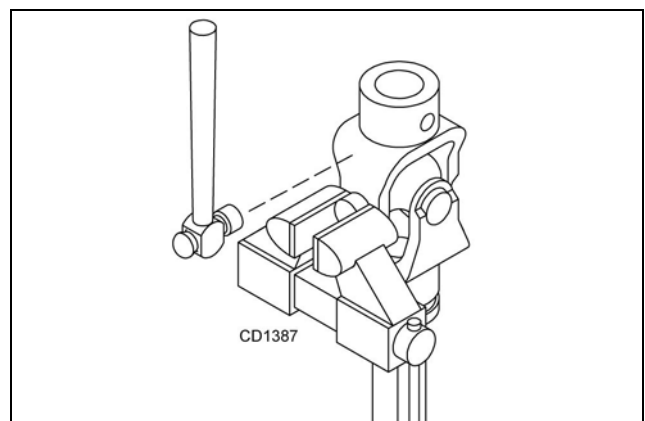

Figure 23
2. Seat cups by placing a drift or socket (slightly smaller than the cup) on cup and rap with a hammer. See Figure 23. Install snap ring and repeat on opposite cup.